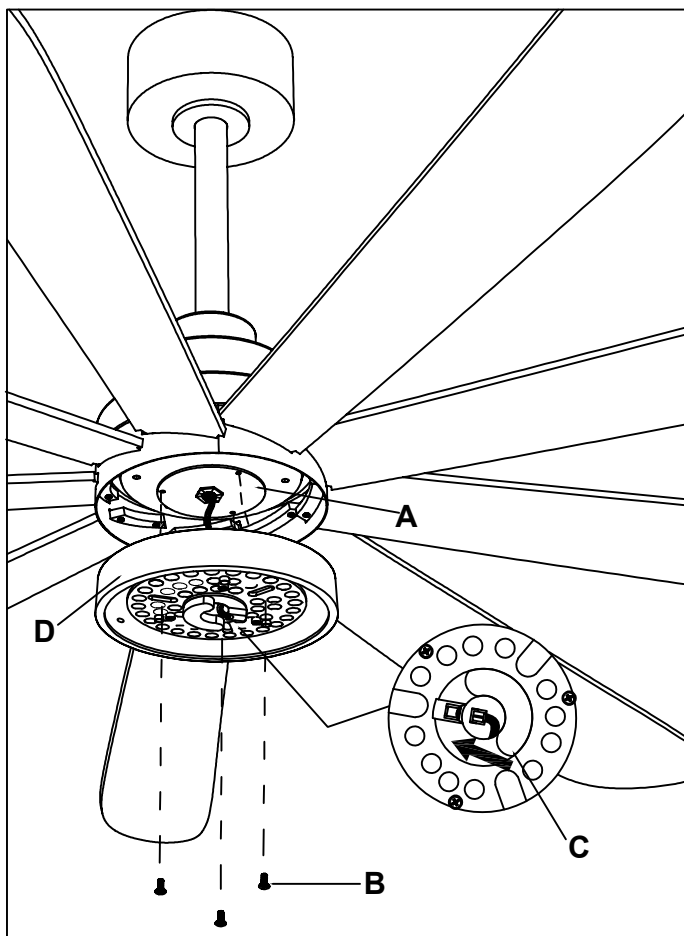

Figure 6.1
- Remove three light kit assembly screws (B) from the bottom round plate (A) of the motor, Connect the terminals under the motor to the LED board (C). Align the lampshade base (D) with the round plate (A) hole, and reinstall the screw (B) that was previously removed. Make sure all screws (B) are tightened. (Figure 6.1)